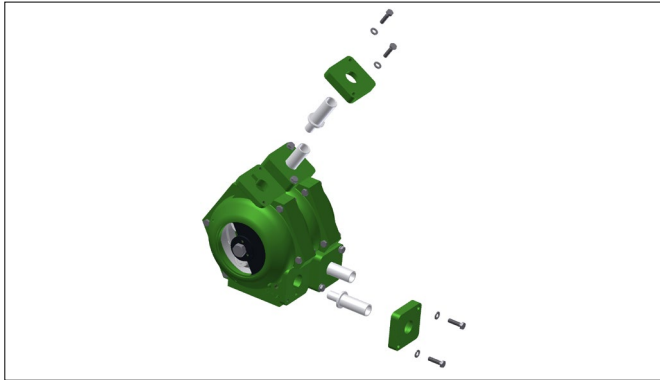

Figure 6 Installing the pump hose
3. Put the clamping ring onto the end of the hose and put the connecting socket into the end of the hose at suction and discharge side. For the second pump head please repeat steps 1 and 2, see Figures 6 and 7.